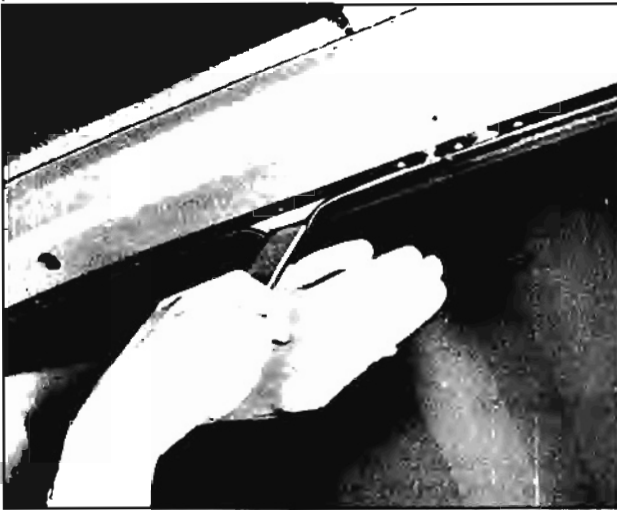

Fig. 16-6 Windshield Removal
windshield as follows: with palm of hand, apply pressure to glass near edge, (Fig. 16-6) at the same time, use a blunt putty knife and carefully assist rubber channel over pinch-weld flange.
6. On inside of body, loosen lip of rubber channel from pinchweld flange along top and sides of windshield as follows: with palm of hand, apply pressure to glass near edge, (Fig. 16-6) at the same time, use a blunt putty knife and carefully assist rubber channel over pinchweld flange across top and sides only.